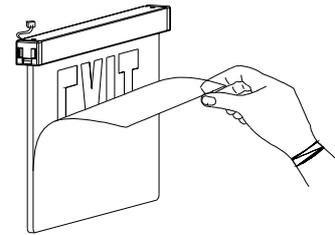

Fig 6
8. Peel off protection film from EXIT panel, Connect light bar connector, assembly panel module to trim plate, adjust position of lamp heads as need.(see Fig 6,7 or Fig 6, 8)